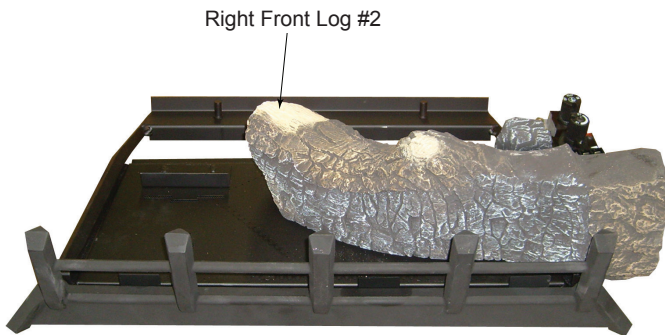

Figure 30
2. Place front right log (#2) on right pin located on burner and right grate bar. *Figure 30*. After placing front right log, ensure log is fully upright and tilting towards the back of the burner.
- Place mid right log (#6) on bottom rear log (#1) and front bottom right log (#4) by placing notch on bottom of log on locating block on log #1. Place front of log in notch of log #4. *Figure 30*